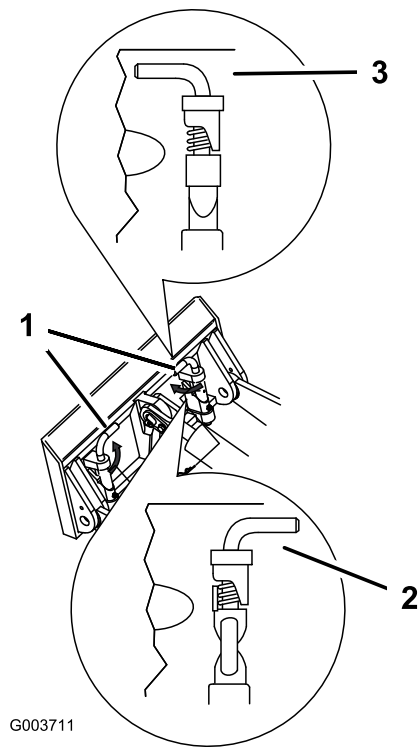

Figure 20
7. Engage the quick-attach pins, ensuring that they are fully seated in the mount plate (Figure 20).